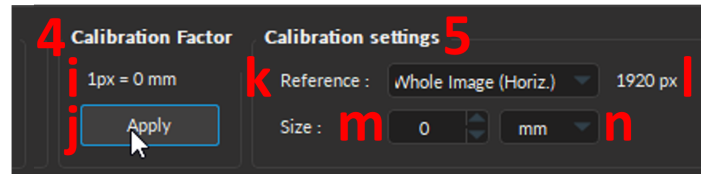

Figure 6.7: Camera Module - Calibration
- j) The **Calibrate** button opens the hidden **Calibration Settings** box (Fig. 6.7, 5) which are required to calculate a new **Calibration Factor**. The image calibration can only be done once the **Live / Record** mode was started and stopped. Note that once the **Calibrate** button is selected, it turns into the **Apply** button (Fig. 6.7, j).
5. The **Calibration Settings** contain the parameters required to calculate the **Calibration Factor**. Once updated, the new **Calibration Factor** will be displayed above the **Apply** button (Fig. 6.7, i).
- k) The **Reference** drop-down list (Fig. 6.7, k) offers three options of elements of the image to use as a reference when calculating **Calibration Factor**.
- l) The **Current Reference Dimensions** (in pixels) is displayed to the right of the drop-down list (Fig. 6.7, l - 1920px).
- m) The **Size & Units** text-boxes (Fig. 6.7, m & n) specify the real dimensions of the reference and its unit (mm, cm or inches). Select the **Apply** button (Fig. 6.7, j) to recalculate the **Calibration Factor** using the new **Size & Units**.